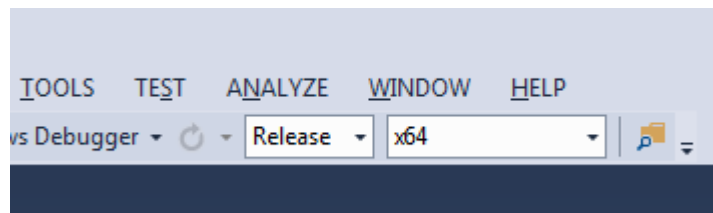

Figure2.2-2 Build configuration for MSVC
6) Choose **Release** and **x64** from the pull-down list as shown in Figure2.2-2.